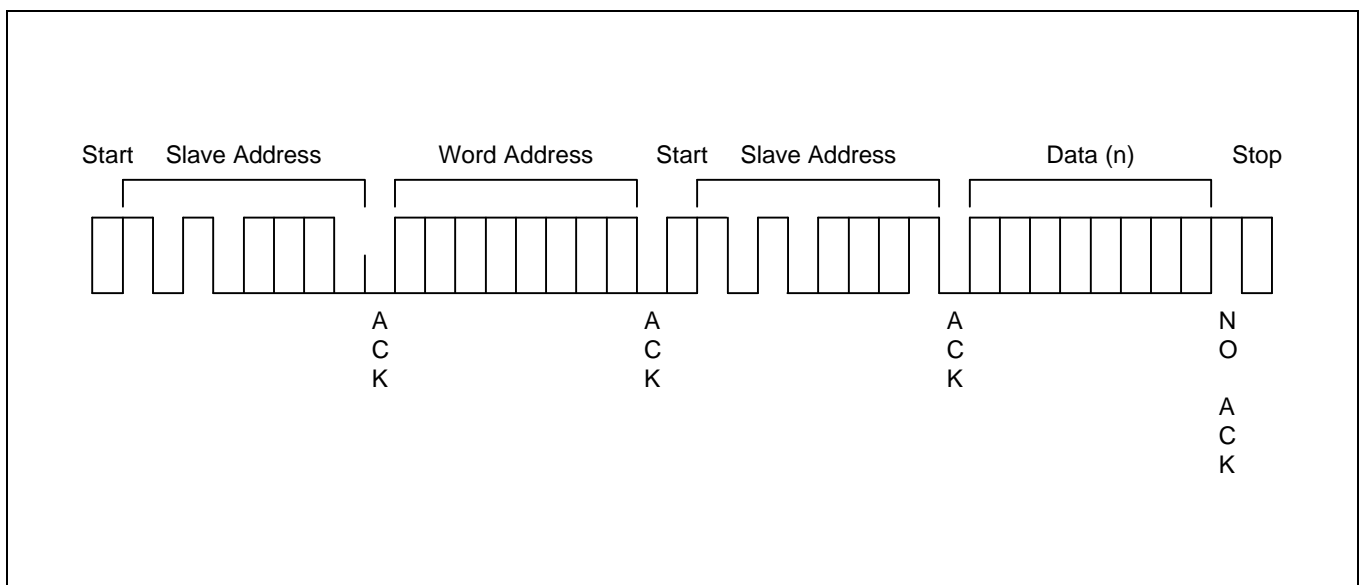

Figure 4-14. Random Address Byte Read Operation
5. In response, the KS24C010/020/040/080 stops transmitting data and reverts to its stand-by mode (see Figure 4-14).